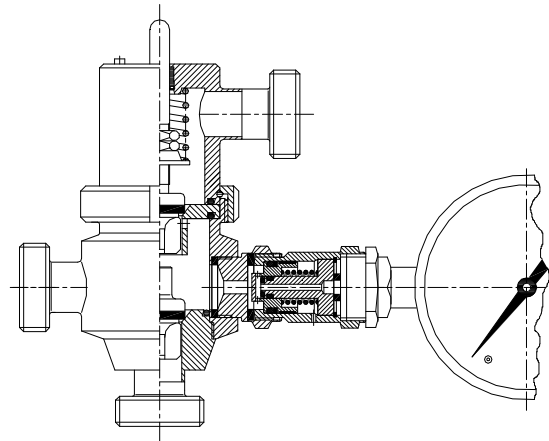

Fig. 3
2. Constant pressure regulator with fixed spring loading, pressure gauge with safety valve, and vacuum valve. (See fig. 3)